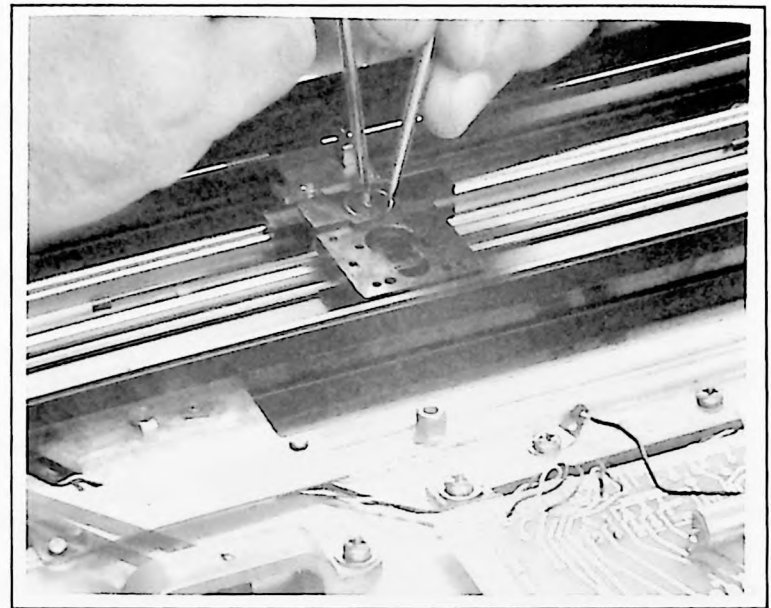

Figure 5-12. Driven Belt-Loosening Tension
- Use awl to spring ratchet leaves in slider block to loosen tension on driven belt. See Figure 5-12.
- Use awl to advance belt tension wheel, then spring ratchet leaves in slider block to loosen tension on driven belt. See Figure 5-12.